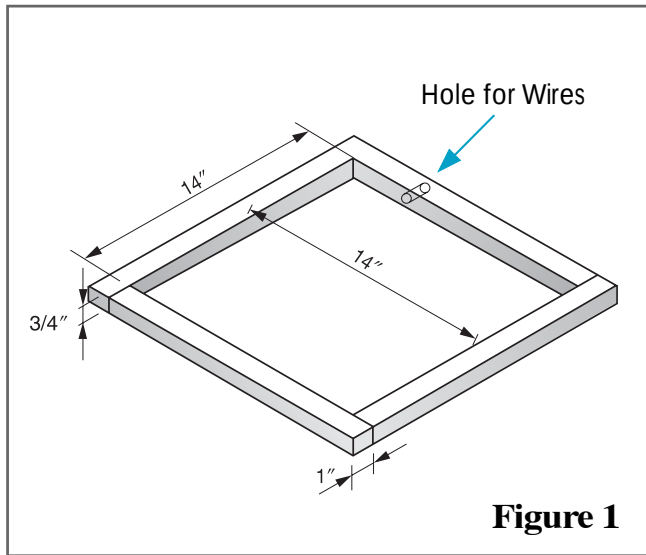

Figure 1
- 3** Examine the roof opening size. If the opening is smaller than 14" × 14", the opening must be enlarged. If the opening exceeds 14" × 14", a mounting plate (frame) must be fabricated to reduce the opening size (See Figure 1).
If a roof vent opening is not used, a new opening (See Figure 1) will have to be cut into the vehicle roof. A matching opening will also have to be cut into the interior vehicle ceiling. Be careful when cutting the ceiling opening because if the ceiling opening is carpeted, snagging could occur. After the opening in the roof and interior ceiling are the correct size, a framed support structure must be placed between the exterior roof top and interior ceiling. The reinforced framed structure must follow the following guidelines:
We recommend that the spacing between the vehicle roof top and the interior ceiling top be no less than 3/4". A typical support frame is shown in Figure 1.